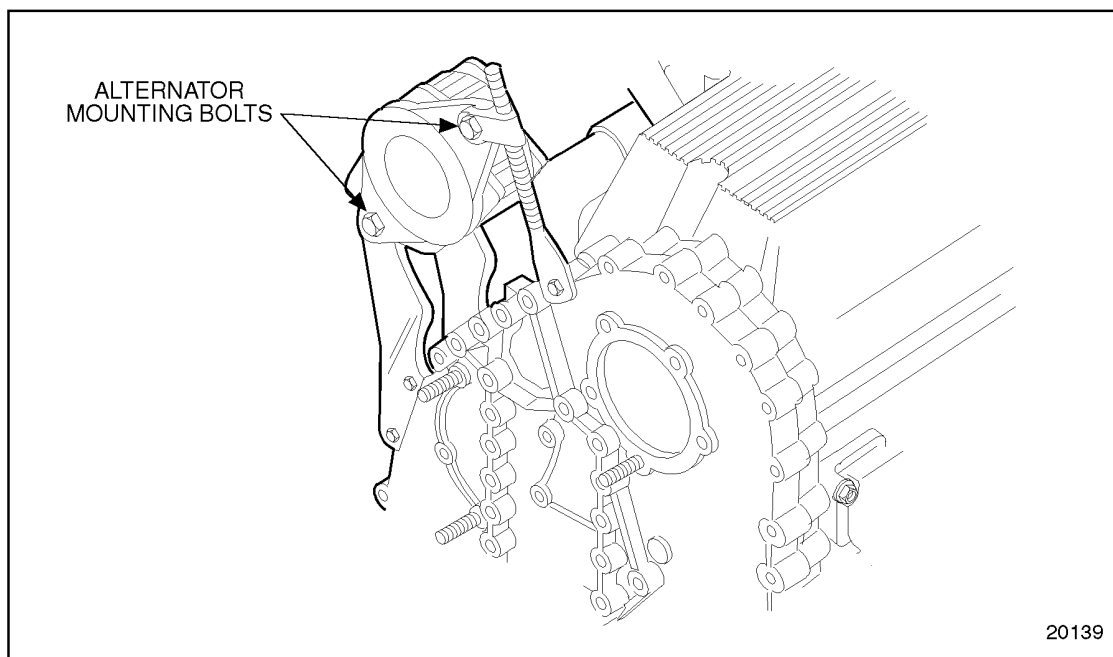

Figure 1-153 Alternator and Related Parts
3. Loosen the alternator mounting bolts. Remove the alternator drive belts, alternator, and mounting brackets (if so equipped). See Figure 1-153.